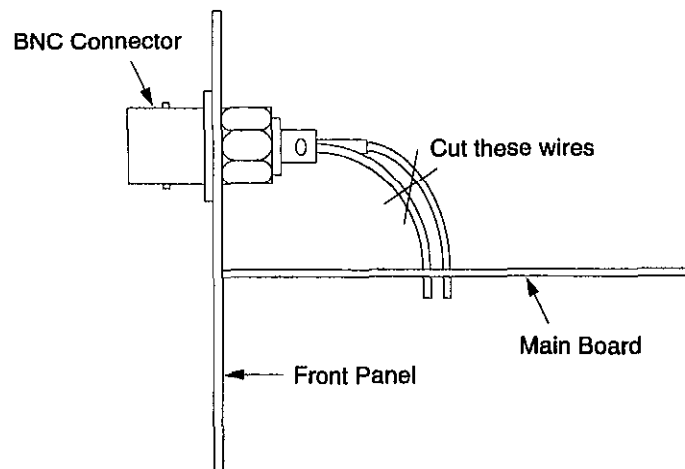

Figure 3-15. Connecting Wires
4. Cut the connecting wires between the three BNC connectors (TRIG IN, SYNC OUT, and FCTN OUT) and the main board with diagonal cutters (see Figure 3-15).